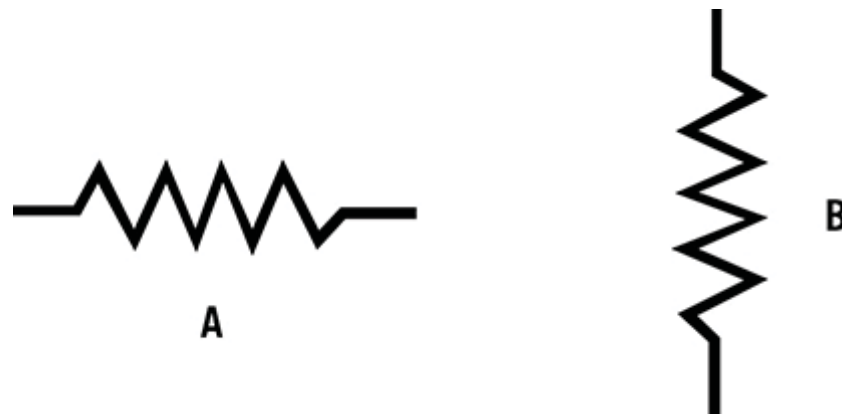
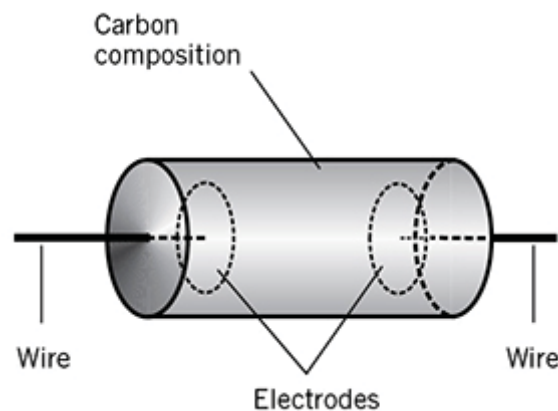
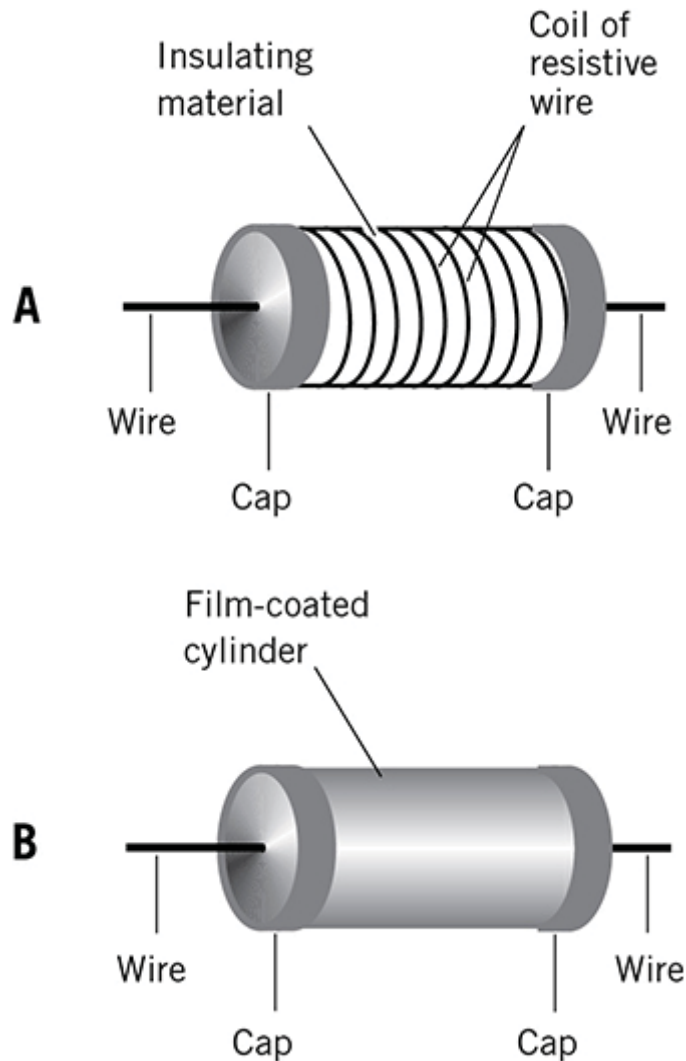

FIG. 3-1 Symbol for a fixed-value resistor. In a schematic, it can appear horizontal (A) or vertical (B).
FIG. 3-2 “Transparent” pictorial of a carbon-composition resistor.
FIG. 3-3 Pictorials showing the anatomy of a wirewound resistor (A) and a film type resistor (B).
Figure 3-2 shows a “transparent” pictorial of a *carbon-composition* fixed resistor with wire leads on both ends. Figure 3-3 shows pictorials of two other types of resistors: *wirewound* (A) and *film* (B). You can denote any resistor of the sort shown in Fig. 3-2 or Fig. 3-3 with either of the symbols in Fig. 3-1.
You can rotate almost any schematic symbol by 90 degrees, as in Fig. 3-1, to make it fit in a diagram. You can even turn it upside down or backwards if necessary! If your viewers know what a symbol means, its orientation doesn't matter.